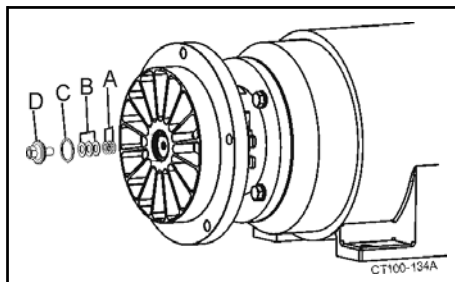

Figure 11 - Remove Shims, Belleville Washers and Impeller Retainer
- Remove shims, belleville washers and impeller retainer with o-ring (Figure 11, items A, B, D and C).